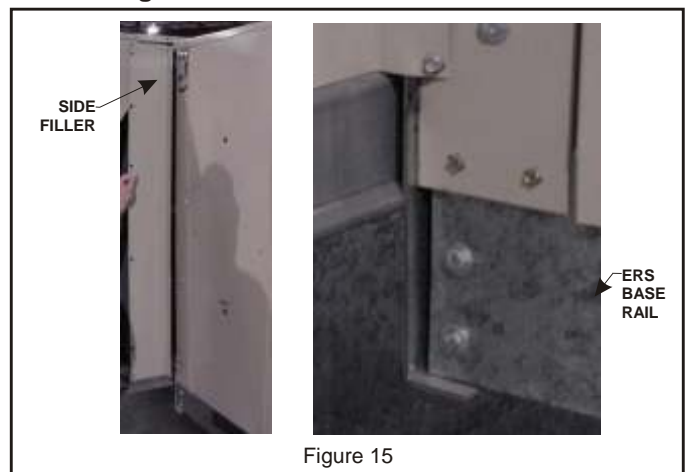

Figure 15
7. Lower ERS into ERS support rail catching the front edge of the ERS bottom into the $\frac{1}{2}$ " flange. Tuck the front top flange of ERS under the rooftop unit top panel. Slide the ERS so that it is tight against the side filler. Now secure unit top and side filler to the ERS. **See Figures 15.**